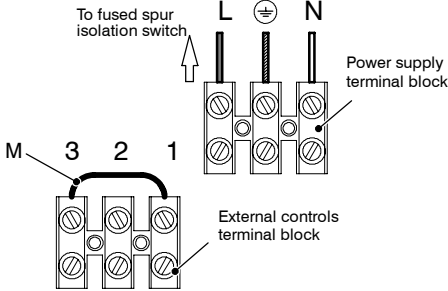

Fig. 6.13
- 6 Connect the electrical supply flexible cord coming from the fused spur isolation switch to the power supply terminal block of the boiler (Fig. 6.13) keeping the same connections for the live (brown wire) and the neutral (blue wire). External 3 A fuse or fused plug with same current rating is recommended.
When connecting any type of external control, the link M in Fig. 6.13 must be removed.